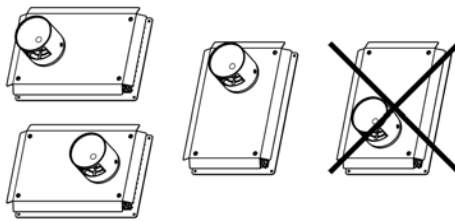

Figure 25 Allowed SST installation orientations
- » Install the SST with the vent and intake pipes horizontally beside each other or vertically with the vent pipe on top. The vent pipe cannot be installed below the intake. The vent cap must be installed with the openings directed up and down (see Figure 25), and not side to side.